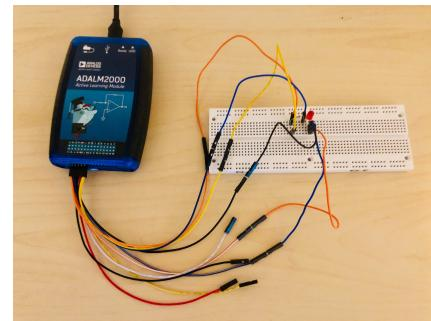

Figure 2: M2K with circuit
- While M2K unit is USB connected to your computer it will connect to external circuits you will build on your breadboard with 10 wires extending from 10 nodes labeled by $1+/-$, $2+/-$, ground symbols, $V+/-$, and $W1/2$ on the left side of the unit as Figure 2 :